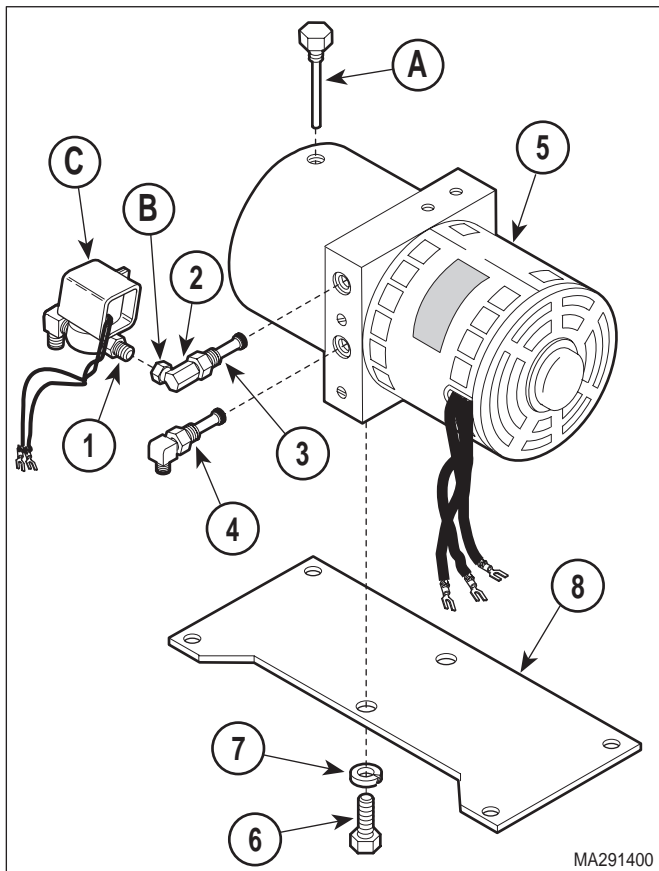

Figure 4-9. Motor Pump Removal / Installation
- (1) Unplug power cord from wall outlet.
- (2) Remove motor pump assembly - Complete (Refer to para 4.9).
- (3) Remove filler cap (A) and drain any remaining oil into drain pan (See Figure 4-9).